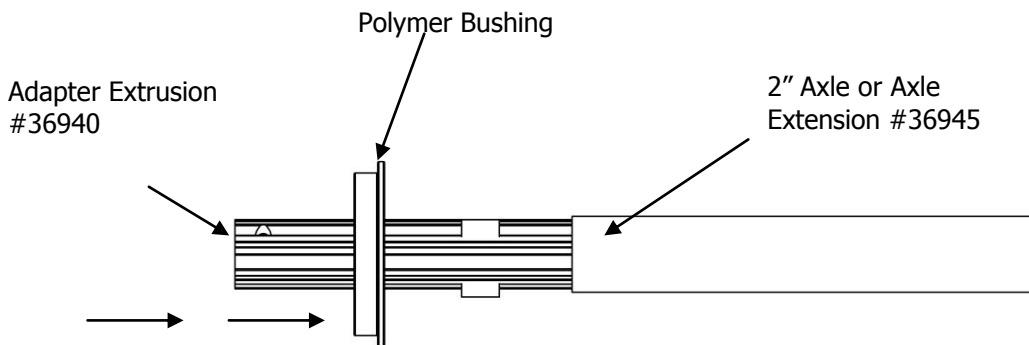

Figure 10
3. Slide the polymer bushing that was taped to the arm onto the adapter as shown in figure 10. Bushing should slide on the end of the adapter that is closest to the stops that are welded on the adapter.